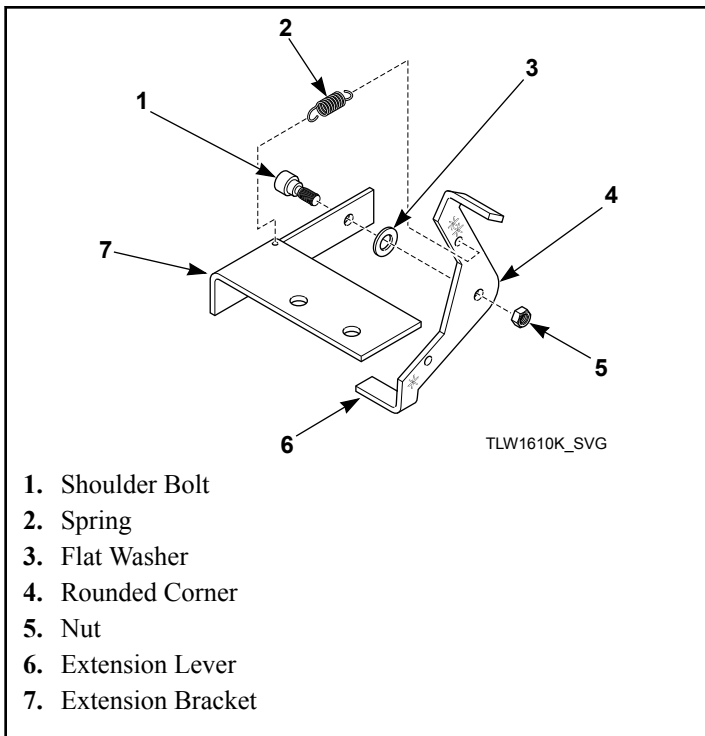

Figure 25
3. Install extension lever with rounded corner facing away from extension bracket using shoulder bolt, flat washer and nut. Refer to *Figure 25*.
4. Install spring to extension bracket with hook facing down. Install other end of spring to extension lever with hook facing left while standing in front of unit. Refer to *Figure 25*.